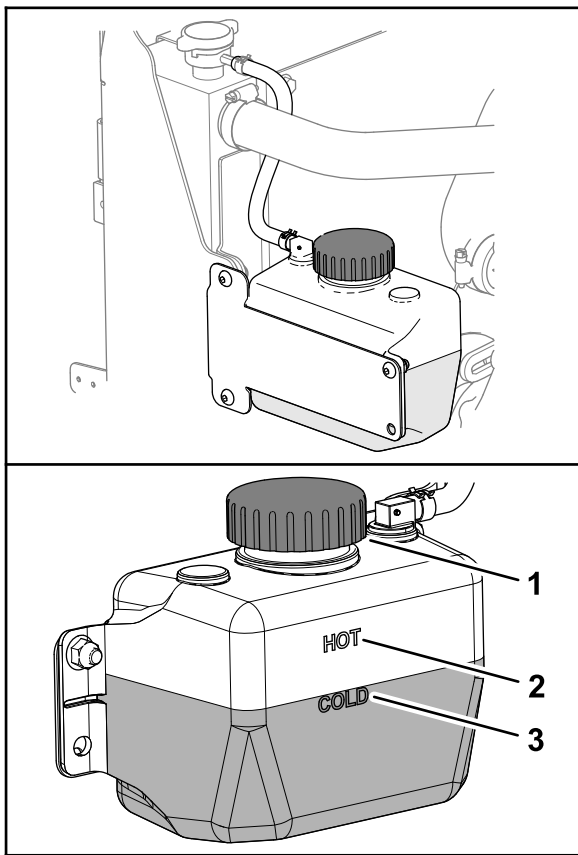

Figure 92
3. Check the level of coolant in the reservoir (Figure 92).